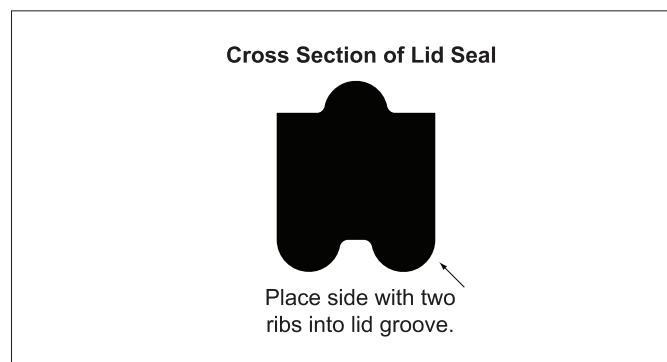

Figure 4. Cross Section of Lid Seal
- c. Note that one side of the seal has two (2) ribs and the other side has one (1) rib. Insert the new seal into the lid groove, placing the side with two (2) ribs into the groove. See Figure 4.